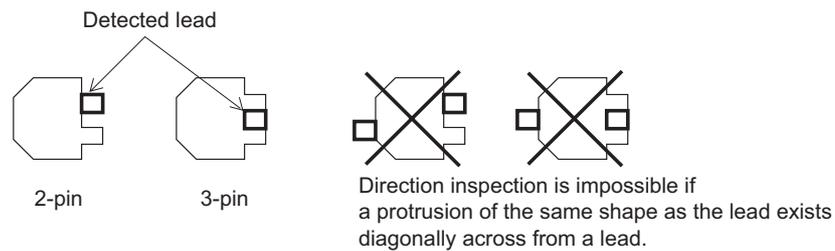

Fig. 1 Detected lead position when performing direction inspection
- Direction inspection cannot be performed if diagonally across from the detected lead there is a protrusion of the same shape as the lead (Fig. 1)